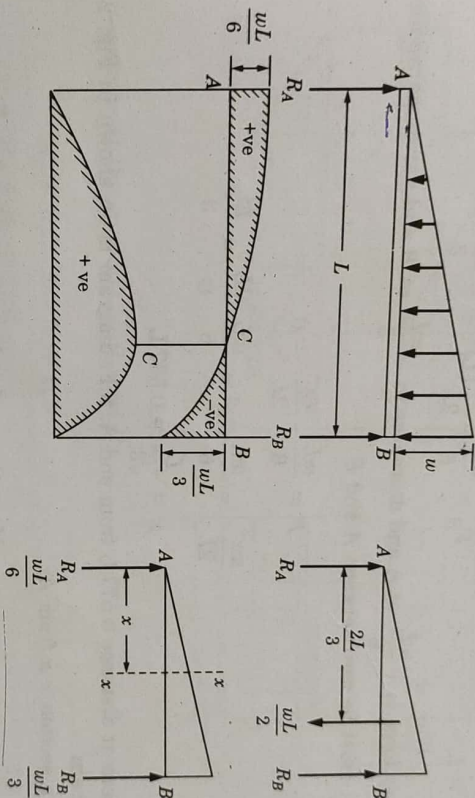

Fig. 25.20
**Example 25.6.** Draw the shear force and bending moment diagrams for a simply supported beam carrying a uniformly varying load from zero at one end to  $w$  per unit length at the other end (triangular load) as shown in Fig. 25.20.
S.F. is zero at distance  $0.577L$  from end  $A$ . S.F. diagram is as shown in Fig. 25.20.
B.M. diagram is shown in Fig. 25.20.